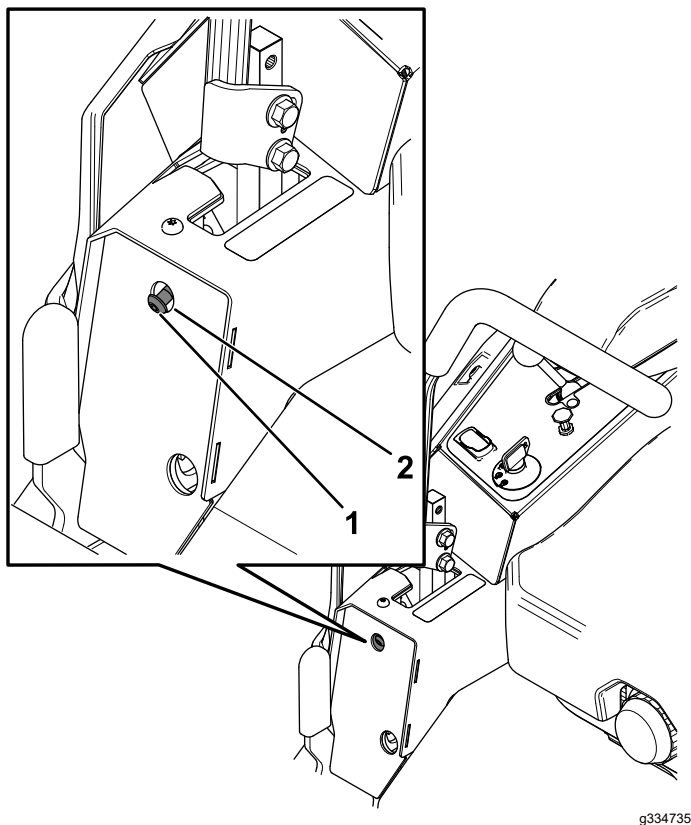

**Figure 55**
6. If the machine tracks to the right, insert a 3/16 inch hex wrench through the access hole in the left, front cover panel and rotate the tracking screw clockwise or counterclockwise to adjust the travel of the lever (Figure 55).
7. If the machine tracks to the left, insert a 3/16 inch hex wrench through the access hole in the right, front cover panel and rotate the tracking screw clockwise or counterclockwise to adjust the travel of the lever (Figure 55).